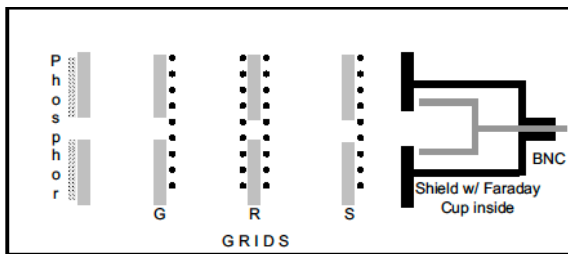

Figure 2. Schematic of Faraday Cup FC-71 with optional grids and phosphor screen.
The FC 71 Faraday cup can have a set of three grids so that it can be used as an energy analyzer. These grids are, in the order that the electrons or ions go through them: ground, retarding, and suppression, labeled G, R and S in the diagram with Figure 2.
a. For the retarding grid (R in Fig. 2): Connect a 0 to 1000 V power supply (negative for electrons or negative ions, and positive for positive ions) through a vacuum electrical feedthrough to the pins on the second grid plate using Teflon-coated stainless steel
b. For the suppression grid (S in Fig. 2): Similarly connect a 0 to 50 V power supply to the pin on the third grid plate.